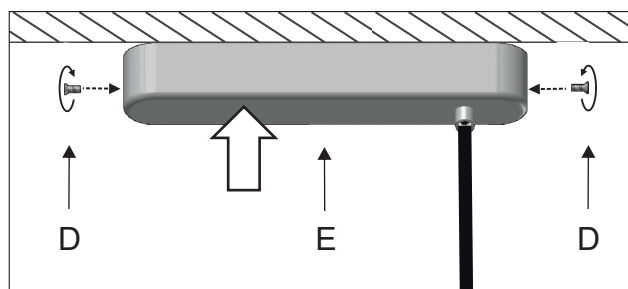

Figure 7
Place the canopy (E) back in place and fasten the side screws (D). Figure 7.